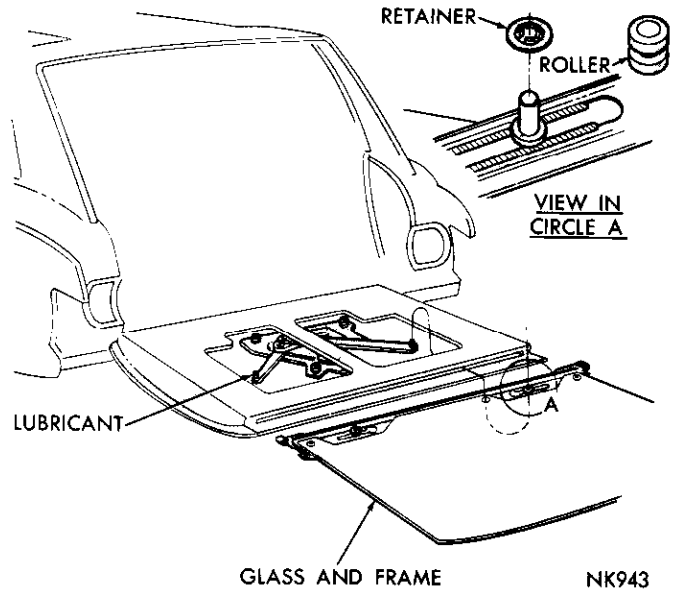

Fig. 71—Tail Gate Glass Replacement
- (1) With tail gate open, remove the trim panel.
- (2) Remove the retainers (Fig. 71) from ends of regulator arm studs.